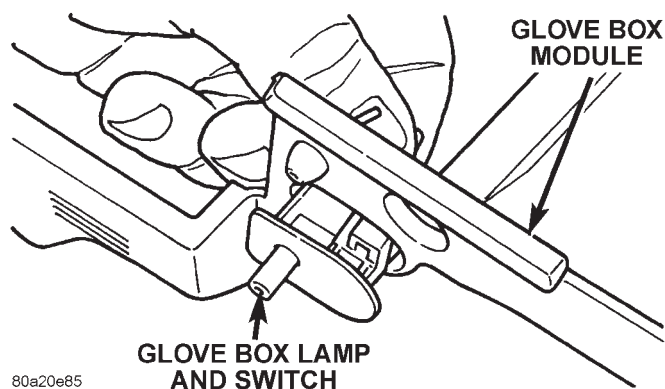

Fig. 13 Glove Box Lamp and Switch Remove/Install
(1) Remove the glove box module as described in this group.
(2) From the back side of the glove box module, squeeze the retaining tabs on the glove box lamp and switch housing together and push the unit out the front of the module through the mounting hole (Fig. 13).